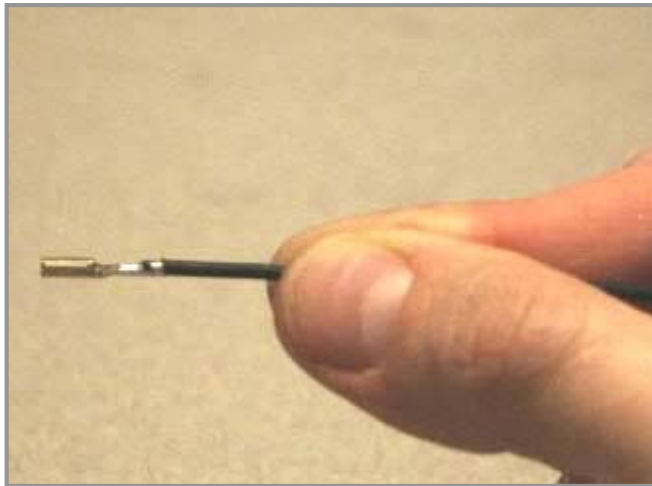
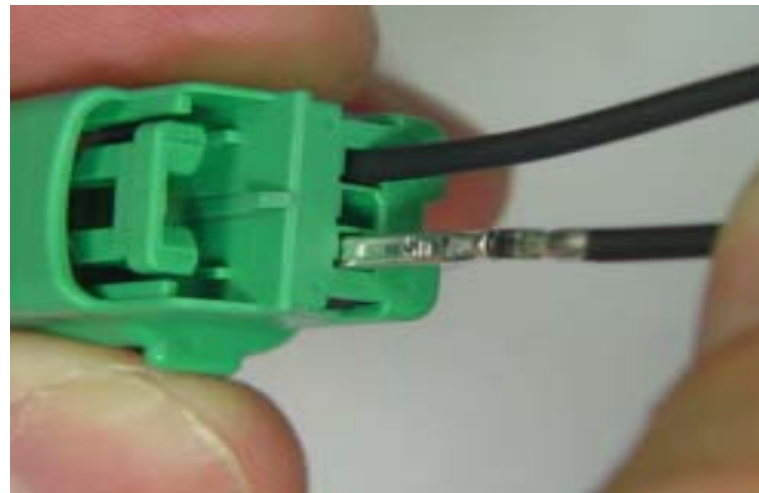

Fig. 3-10
Fig. 3-11
- n Grip the wire, (Fig. 3-10) and insert through appropriate circuit opening (Fig. 3-11). If resistance is encountered, retract the terminal and adjust the angle of insertion. Continue inserting the terminal until it stops and locks on the lock finger with an audible click.